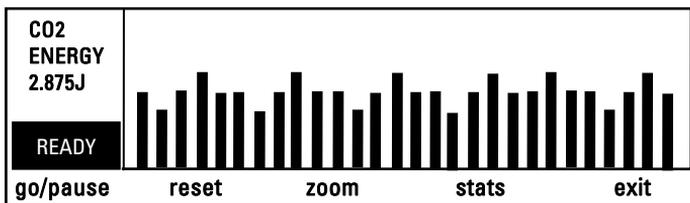

Figure 11
4.5.6 Energy Log and Data Storage (See Figure 11)